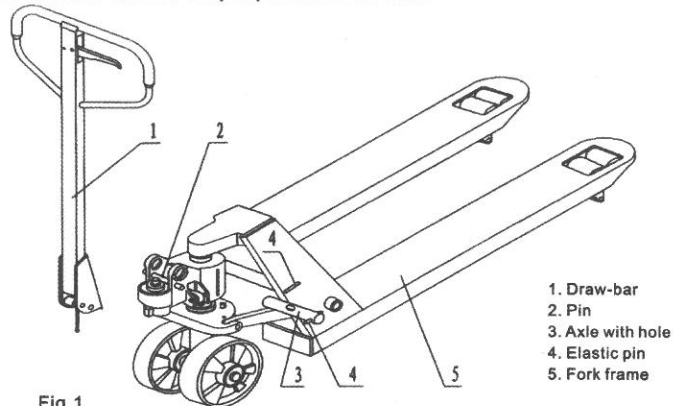

Fig.1
2.3 Press the draw-bar (A110, A110B) down, take away the pin(#2) (See Fig. 1).